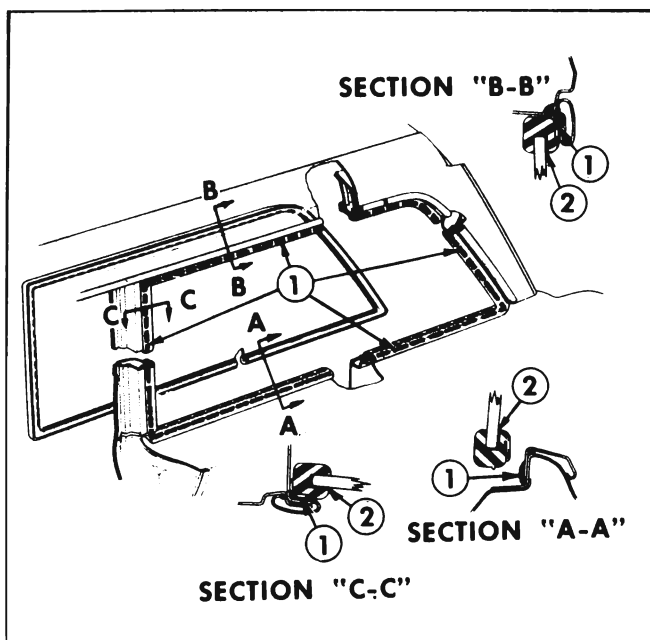

Figure 13-55—Rear Quarter Window Sealing—Station Wagon
3. To install rear quarter window, first clean off all old sealer from rubber channel and body opening. Apply a bead of medium-bodied sealer on the wall of window opening rabbet completely around window opening to effect a seal between body and rubber channel. See #1 in Figure 13-55.